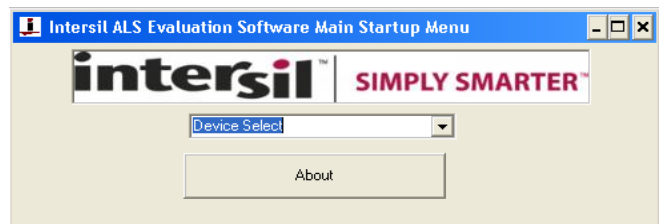

FIGURE 7.
- Once you have double clicked the program, the window displayed in Figure 7 should open.